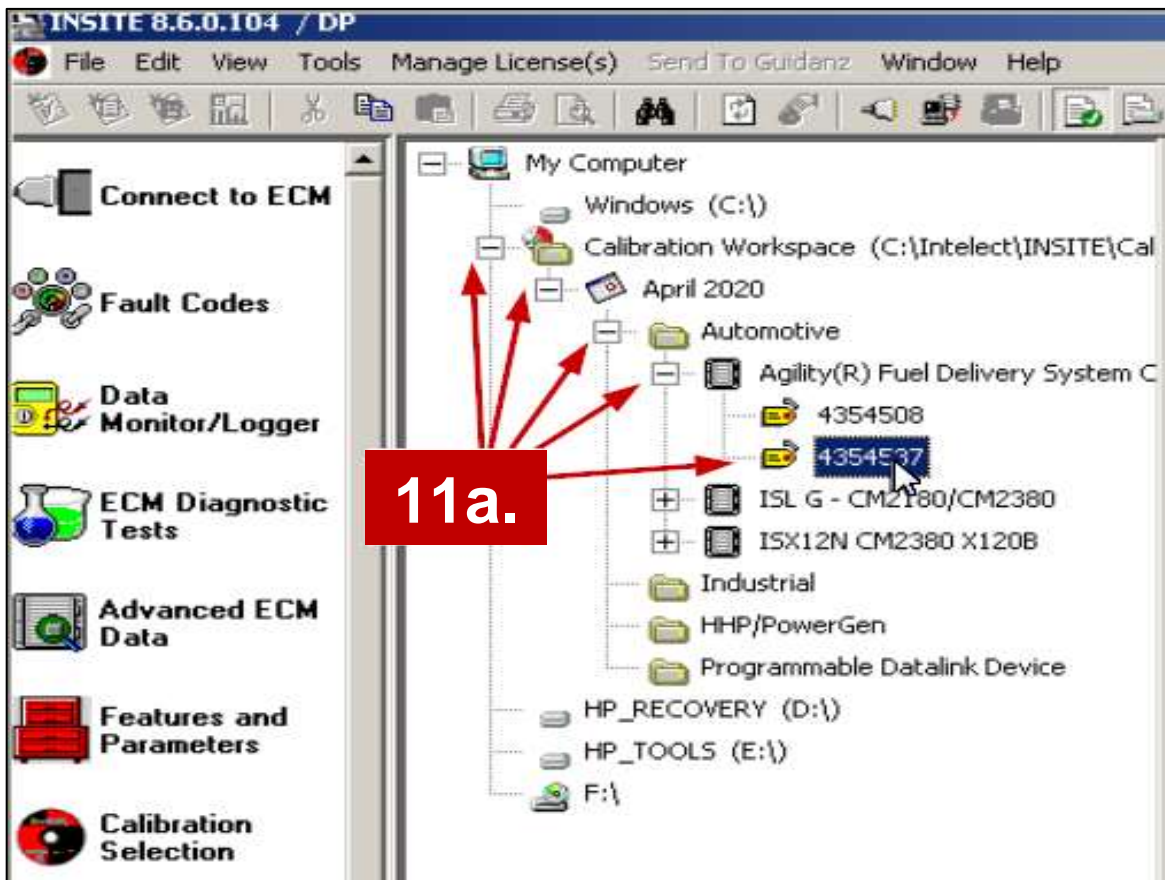

Figure 14.
Step 11: Click/expand all folders (the + buttons), then click on “4354537.” Figure 14